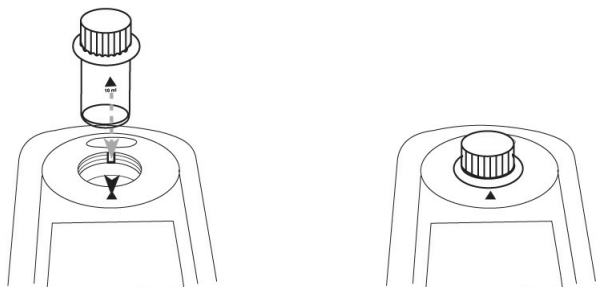

Figure 1
4. Insert the reagent blank cell, into the sample chamber (with mild downward pressure), making sure that it is fully seated (Fig. 1)
2. Insert the resulting sample cell into the sample chamber (with mild downward pressure), making sure that it is fully seated. (Fig. 1)